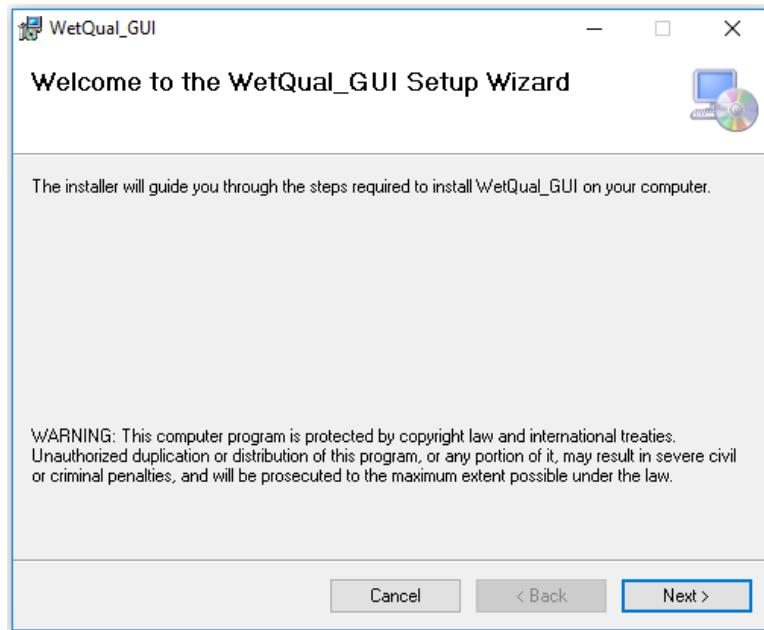

Figure 2.8
2. Double click the "WetQual\_Install.msi" and the following dialog window will appear (Figure 2.8).